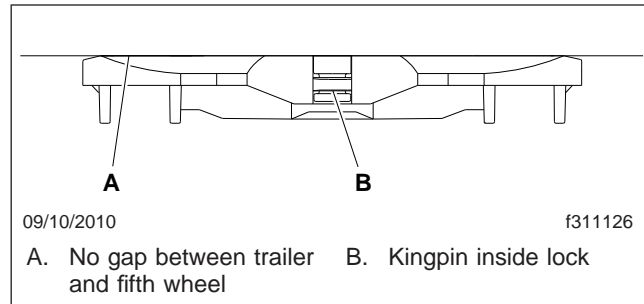

Fig. 17.6, Coupling Inspection
8. Perform a coupling inspection, checking that there is no gap between the bottom of the trailer and the fifth wheel, and that the kingpin is securely locked. See Fig. 17.6
11. Perform a physical check for positive kingpin lockup, ensuring that there is no gap between the trailer and the fifth wheel. See Fig. 17.6.